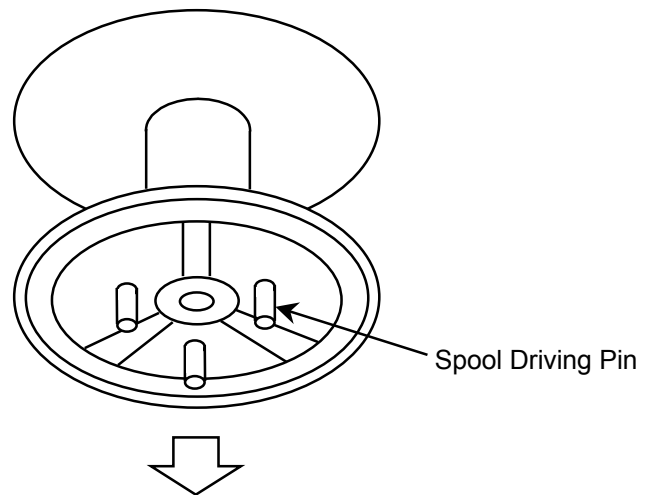

Figure 5-6: Position of Ribbon Spool
5. Move one of the detecting levers out of the way, and place the appropriate ribbon spool on the spool shaft. Make sure that the spool's driving pins face downward (see Figure 5-6).